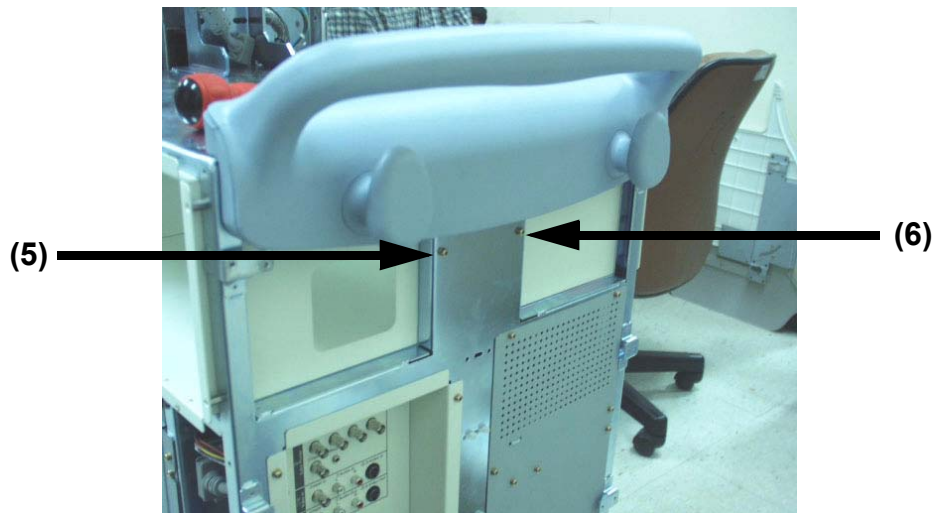

Figure 8-99 Unscrew two screws
- 6.) Unscrew two (2) screws (5-6) from the rear side of handle. Refer to Figure 8-99 on page 8-53 .